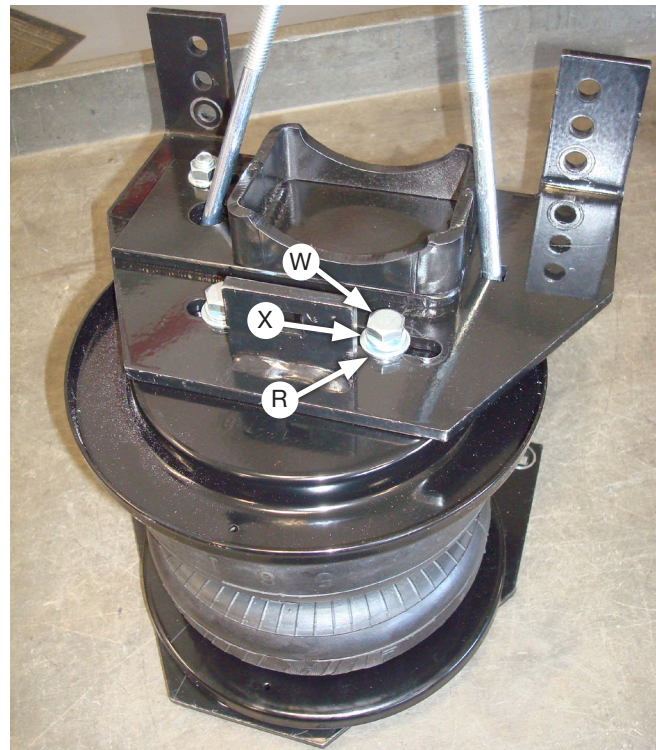

Fig. 13
6. Set the lower bracket assemblies onto the air springs with roll plates installed and attach them with (2 of each) 3/8"-24 x 7/8" hex bolts (W), 3/8" lock washers (X) and 3/8" flat washers (R) (Fig. 13).